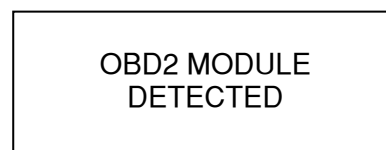

Fig. 4
- If the OBD2 module is plugged into the tool, the message as in **Fig. 4** will be displayed.